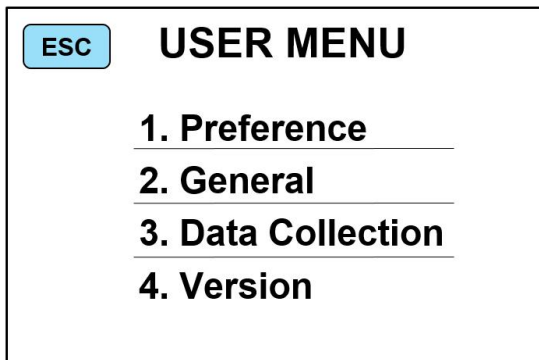
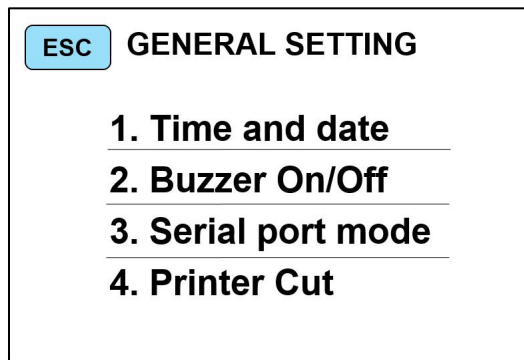

Figure 26
Figure 47
1) Press the “” key to enter the main interface of USER MENU, as shown in Figure 26 below, Press “2.General” to enter into GENERAL SETTING interface as figure 47.